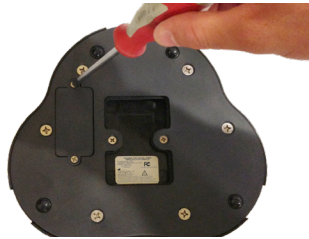

Figure 2
3. Use a philips-head screwdriver to remove the two screws securing the battery cover. Turn the screwdriver counterclockwise until the screws comes out completely (Figure 2)